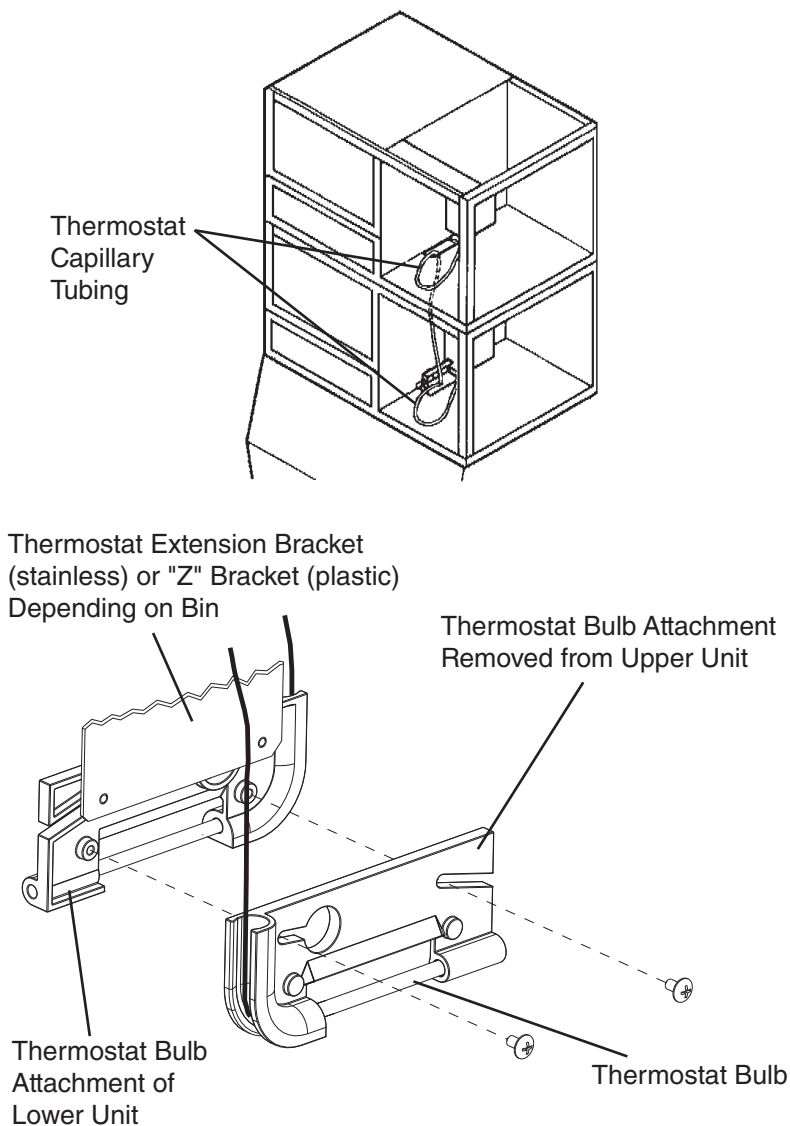

Fig. 7
- 12) Secure the thermostat bulb attachment (plastic) of the upper unit to the thermostat bulb attachment (plastic) of the lower unit with the screws of the upper unit. See Fig. 7.